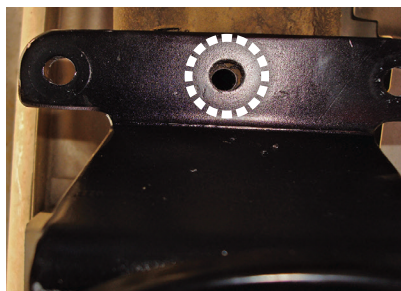
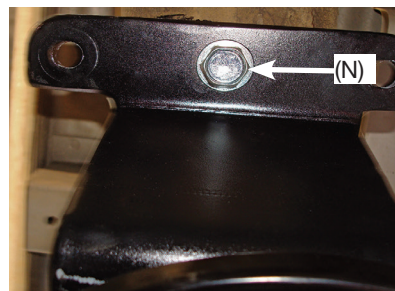

Fig. 23
Fig. 24
11. Center the upper bracket in the middle of the frame rail, make sure there is sufficient clearance between the fitting and the stock jounce bumper cup, and drill a 5/16" hole in the frame using the center hole in the front side of the upper bracket as a template (fig. 23). Install the washer-head self-tapping screw (N) in the hole (fig. 24). Torque to 15 lb.-ft. (20Nm). Repeat for the other side.